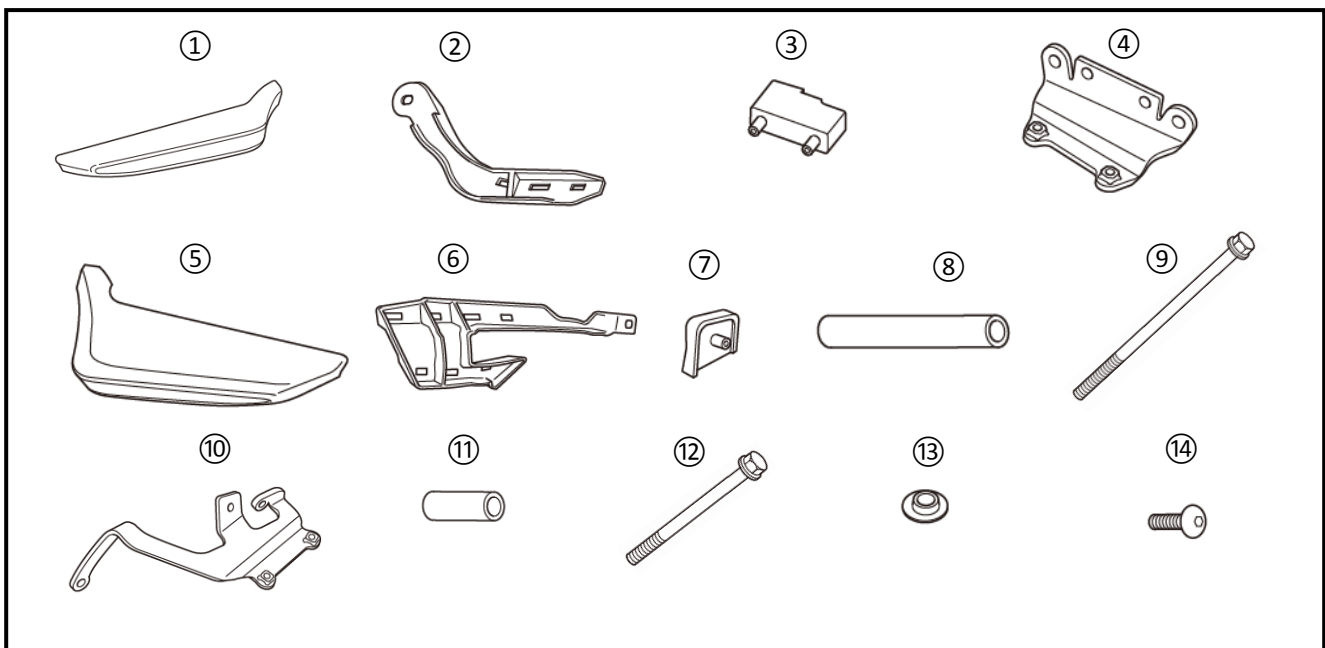

Fig. 1
1. Referring to the Owner's Manual as needed, remove the stock body panels from the front and sides of the motorcycle in the order of the numbered callouts; remove part 1, then part 2, then part 3 and on until you've removed parts 1 through 7. (Fig.1). Retain all fairing parts and fasteners for reinstallation.